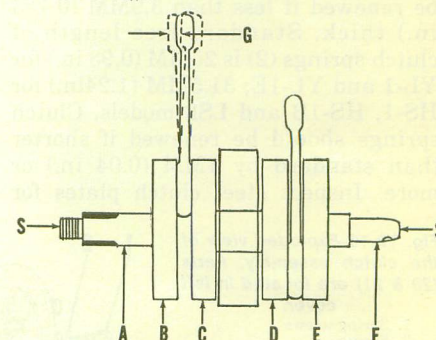

Fig. Y2-15—Refer to text for checking crankshaft for correct assembly or wear.
**CONNECTING RODS AND CRANKSHAFT.** The crankcase halves must be separated to remove the crankshaft. Connecting rods, crankpins, rod bearings and the center main bearings are removed by pressing the crankshaft apart. The crankshaft should be disassembled **ONLY** if required tools are available to correctly check and align the reassembled crankshaft. If side shake (G—Fig. Y2-15) at piston pin end of connecting rod end exceeds 2MM (0.08 in.), the connecting rod, crankpin and lower bearing should be renewed. Shake (G) should be 0.8-1.0MM (0.032-0.039 in.). Side clearance of connecting rod between the crankshaft counter weights can be measured with a feeler gage. Side clearance should be 0.1-0.3MM
(0.0039-0.012 in.). With crankshaft supported between lathe centers (S—Fig. Y2-15), maximum eccentricity when measured with dial indicator at points (A,B,C,D,E, & F) should not exceed 0.02MM (0.0008 in.).